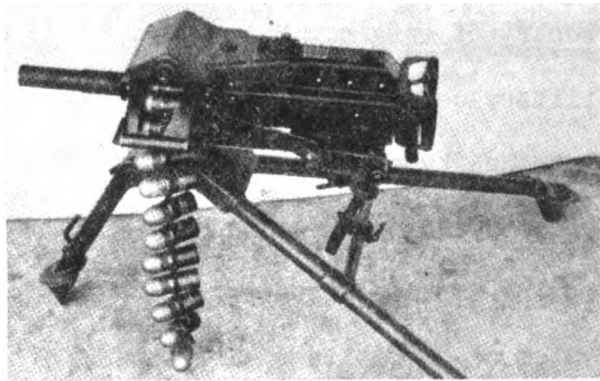

Figure 11
11. Identify The MK19. (See fig. 11.)